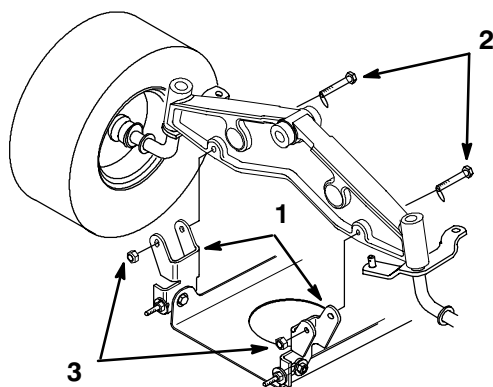

Figure 41
5. Install the mower pivot mount brackets to the front axle with bolts and lock nuts (Fig. 41).